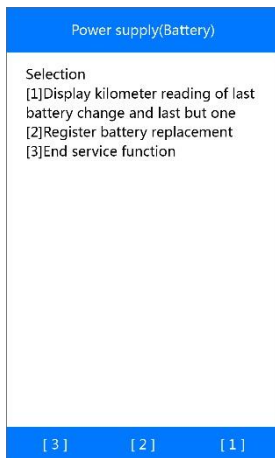

Figure 5-54 Sample Register Battery Replacement screen
- 1) From *Figure 5-54*, press [2] to continue.